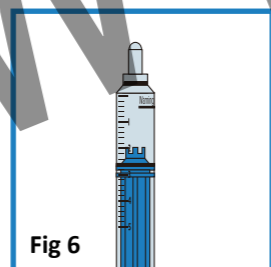

Fig 6
- Depress the plunger all the way and when the fiducial line of the piston covers with the zero graduation line on the barrel, the needle retracts automatically (Fig 6).